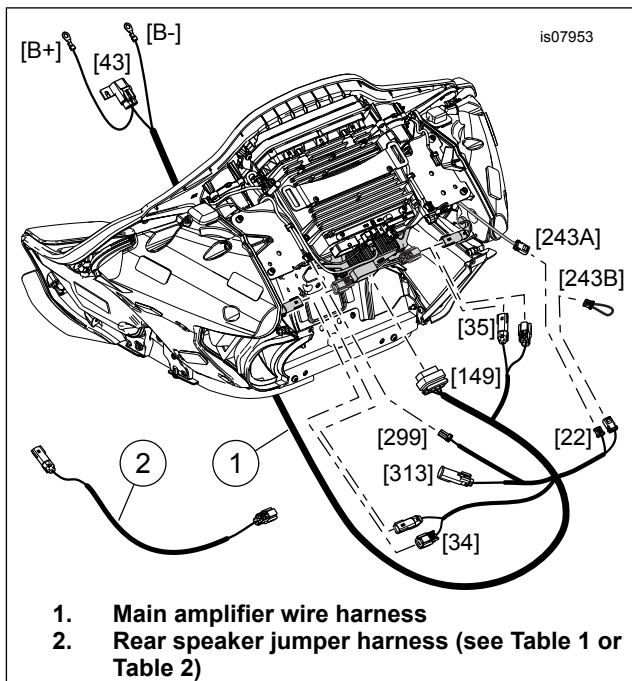

Figure 4. Harness Connections
4. See Figure 4. Position the harness as shown. Plug in the connectors. Connections for [34], [35], [162], [313], [299] and [22] are detailed in the following notes.
- Four-way Molex connector [162] provides rear channel output from the radio. Used for speaker output on models without amplifier (see Figure 4). Unused with primary amp. Used for secondary amp INPUT.